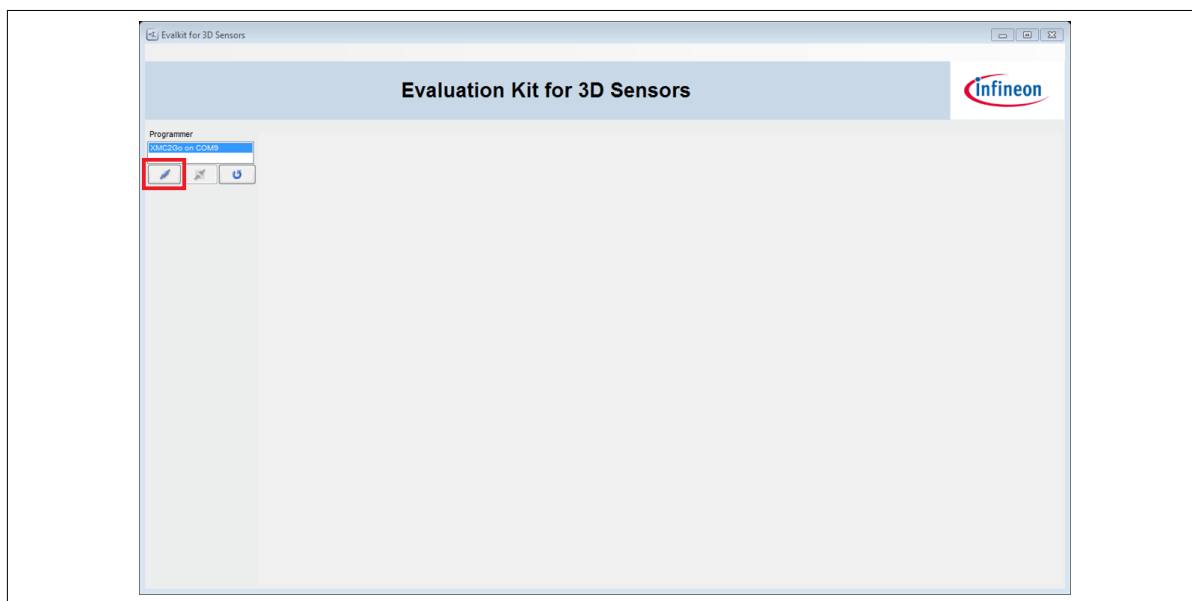

Figure 25 Establish the connection to the EvalBoard
2. Open the 3D 2Go GUI by clicking the shortcut in the start menu. On the top left side you should find the XMC2Go board in the list. If not, check that the EvalBoard is correctly connected to the PC and the J-Link driver is installed. Click on the **Connect to selected programmer button** which is marked in Figure 25 to establish the connection with the 3D Magnetic Sensor 2 Go kit. The first time you connect the board, a firmware will be downloaded to the XMC1100 which takes short time. This is indicated by the blinking power LED on the EvalBoard.